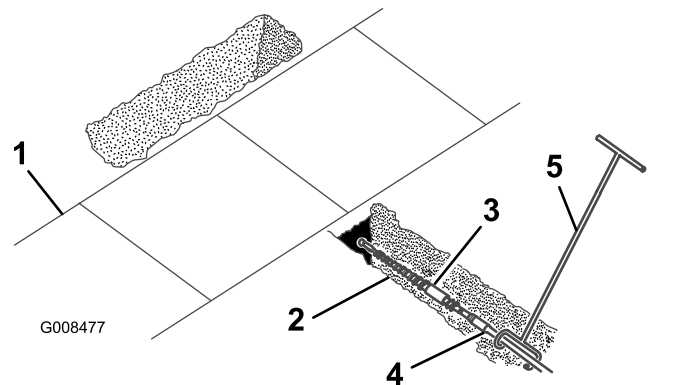

Figure 5
4. Connect the rod guide tool to the rod just behind the boring bit (Figure 5).
5. With the person guiding the boring bit positioned to the right of the trench (Figure 5), start the engine, move the pump selector valve to slow (turtle) (200 and 300 series traction units only), position the throttle to within the middle of the rpm range, and pull the auxiliary hydraulics lever rearward to start the forward rotation of the boring bit.
6. Slowly move the traction unit forward, while the person with the rod-guide tool guides the boring bit into the soil (Figure 5).